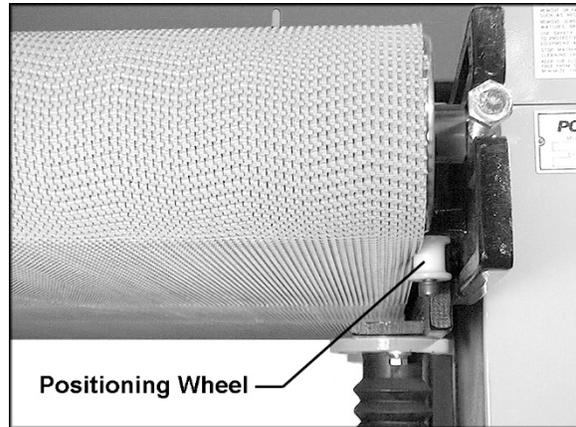

Figure 14
6. A positioning wheel (Figure 14) has been provided on the right and left sides of the conveyor belt to limit the belt tracking. When adjusting the tracking, the conveyor belt should be moved until its edge just touches the positioning wheels.